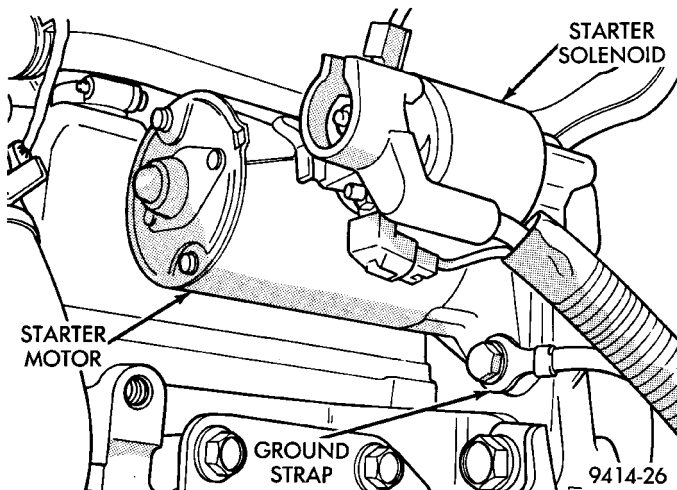

Fig. 40 Starter Motor and Ground Strap
(11) Check the electrical connection to the radiator fan.
(12) Inspect for corrosion on the electrical connections at the starter motor solenoid. Check the ground cable connection below the starter motor (Fig. 40).